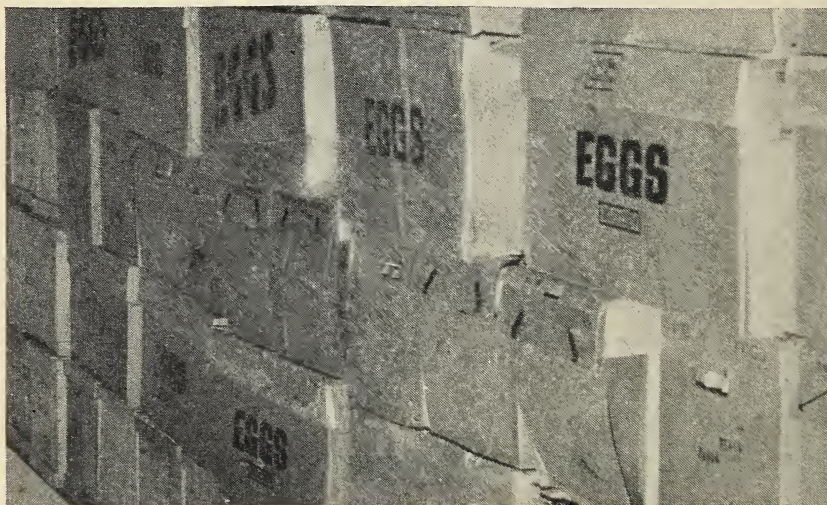

Figure 30.—Non-moisture-resistant fiber egg cases do not hold up in storage.
1. Not use fiber egg cases made of non-moisture-resistant board for storing eggs, except for short periods (fig. 30).